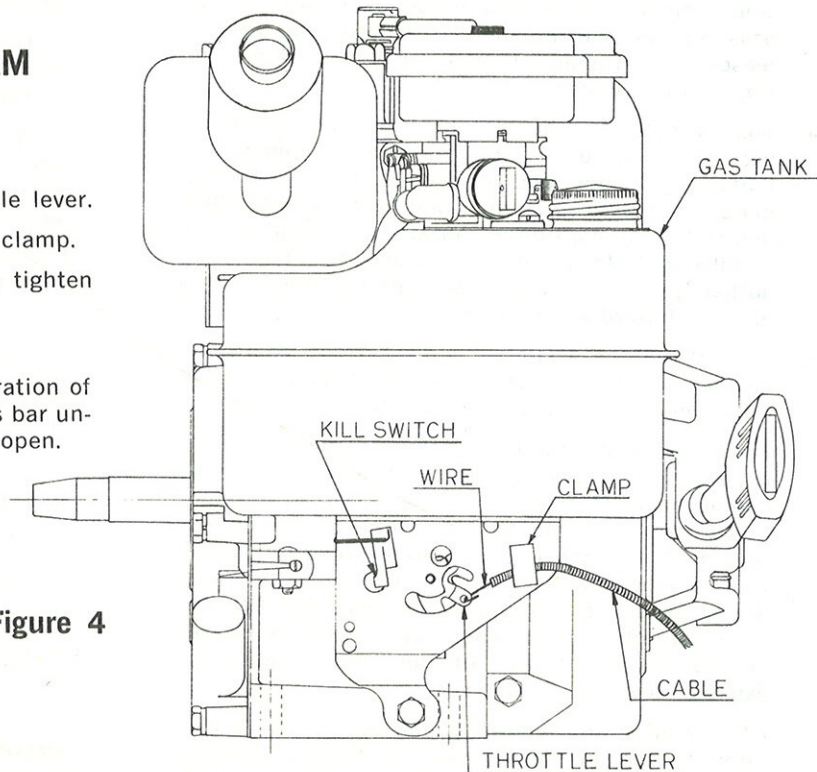

Figure 4
6. For Briggs & Stratton engine. The kill switch for this engine is operated by the throttle lever. To stop engine back-off on the throttle as far as possible, this works an automatic kill switch on the engine. Should this switch fail to operate properly, consult your engine manual Section IV under Standard Speed Control for proper adjustment. See Fig. 4.